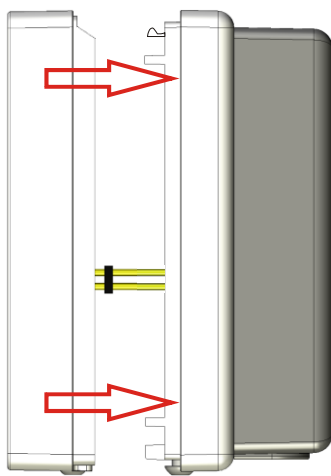

Fig. 4 Fitting of the housing cover
- Put the housing upper part straight onto its bottom part and snap it in. (see Fig. 4)